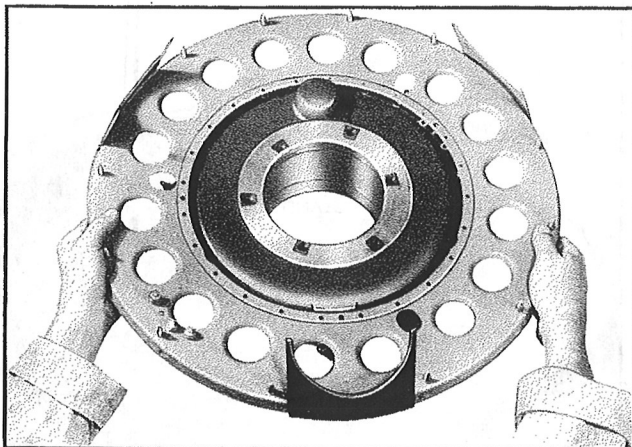

Figure 164—Installation of the Spinner Bulkhead
*Step 26.*—Install the spinner bulkhead on the regulator, aligning the offset dowels with the dowel holes. Bulkhead plates should face away from the regulator. See Figure 164.